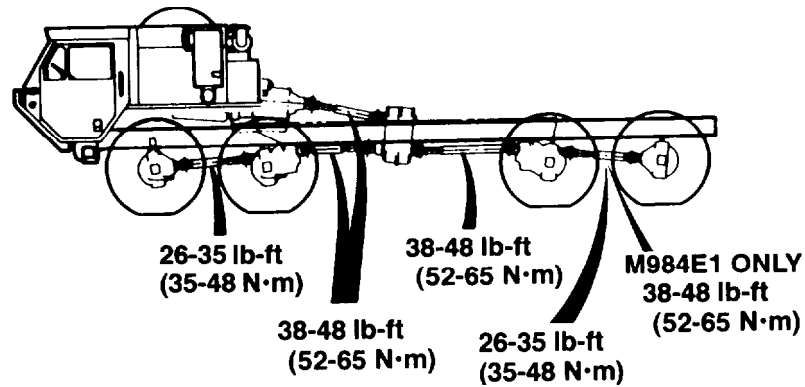

Figure 9-1. Capscrew Torque Limits
- (1) Install universal joint (5) in flange yoke (2).
- (2) Install bearing caps (4) on both sides of universal joint (5) and flange yoke (2). Make sure bearing caps are sealed against flange yoke (2).
- (3) Install two screws (3) on each bearing cap (4).
- (4) Tighten screws (3) (fig. 9-1).
- (5) Deleted.
- (8) Install two screws (11) on bearing caps (9).
- (9) Tighten screws (11) (Figure 9-1).